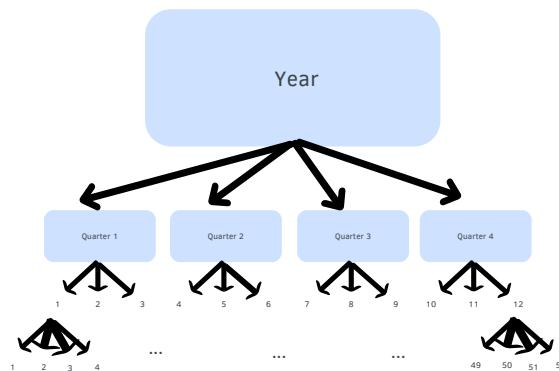

Fig. 3: Date Hierarchy
- Secondly, the *Date Hierarchy*, which represents the labels of the relationship between five variables: *Year*, *Quarter*, *Month*, *Week*, and *Day* – Figure 3.